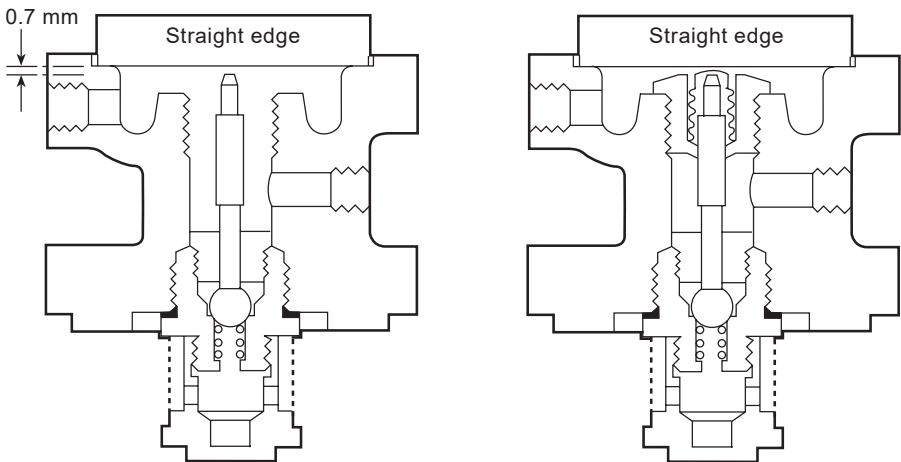

Fig. 6
2. Release the adjustment lock-nut (2) and turn the adjustment screw (1) anticlockwise until the spring is slack.
3. Slide out the 'C' washer (3) from underneath the lock-nut and remove the spring housing cover (12).
4. Remove the pressure adjustment spring (6) and the top spring plate (5).
5. Undo the 4 x M10 nuts and remove the spring housing (4), bottom spring plate (7) and remove the diaphragms (9) after noting which way they are installed.
6. Undo the union nut (27C) and pressure pipe union (29) and release the 6 mm stainless steel pipework.
7. Undo the 4 nuts (21) and remove the pilot valve housing (10) making sure that the main valve return spring (16) is still positioned correctly on top of the main valve (17).
8. Unscrew the pilot valve and seat unit (13) and the internal strainer screen (14A) by using a 27 mm A/F socket and also remove the plunger (11).
10. With the bellows seal still removed screw in the new pilot valve and seat unit (13) and tighten down to a torque of 115 N m.
11. Insert the pilot valve plunger (11) in from the top and check that there is a gap of 0.7 mm between the top of the plunger and a straight edge placed across the diaphragm location recess (see Figure 6).
13. Check with a straight edge again that, with the top of the bellows pressed lightly onto the top of the plunger, there is a slight clearance - a mere line of light, between the straight edge and the top of the bellows (see Figure 6).
14. Before reassembling the valve make sure that the gasket face on both the pilot valve block and the body are clean and that the main valve return spring (16) is positioned correctly on top of the main valve head.